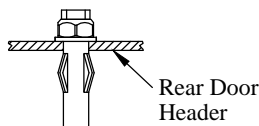

Figure 12: Assembled Plusnut.
9. **Insert** the Plusnut into the 5/16" drilled hole (Figure 12).